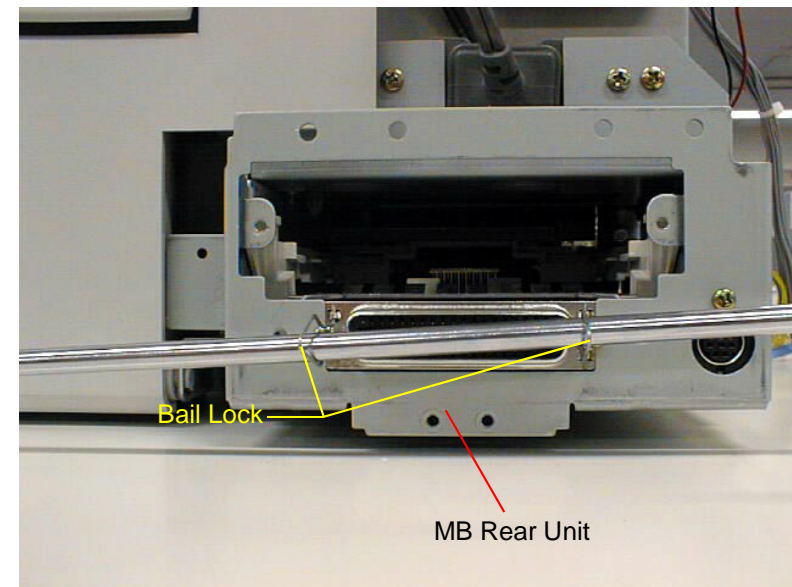

Figure 4-13. MB Rear Unit Removal
4. Insert the driver into 2 bail locks on the I/F connector and remove "MB Rear Unit" toward back. (Refer to Figure4-13)